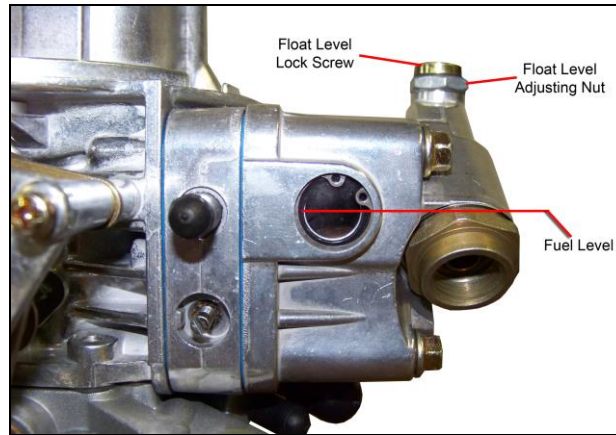

Figure 13
2. Observe the sight glass for the fuel level. If none is seen, the level is too low. If it is higher than the middle of the sight window, it is too high. **NOTE:** A properly set float level will have the fuel level located at the middle or slightly below the middle of the sight window, as shown by the line in Figure 13.